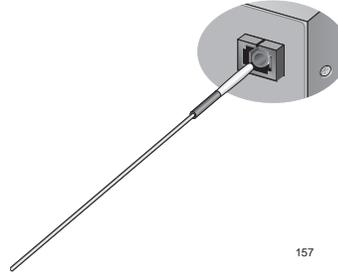

Figure 29. Cleaning a Recessed Ferrule
1. Insert the swab into the adapter as shown in Figure 29. Rub the ferrule tip with the swab.